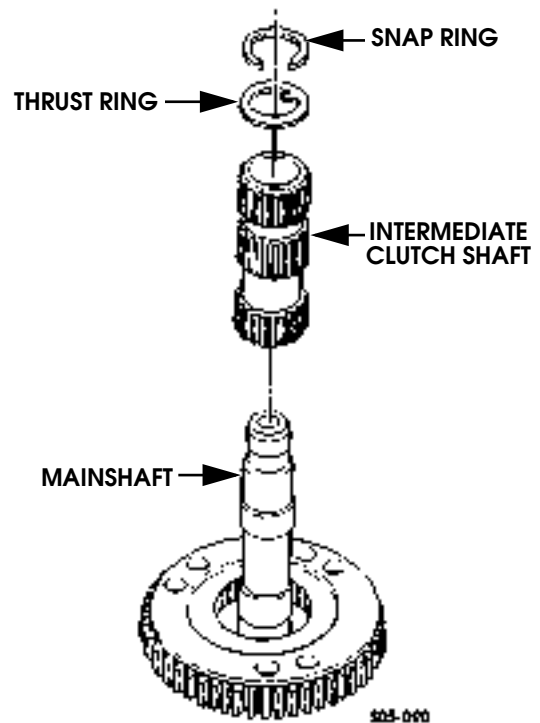

Figure 5-100: Clutch Shaft Removal
- 22. Remove intermediate clutch shaft and tabbed thrust ring from mainshaft (Figure 5-100).